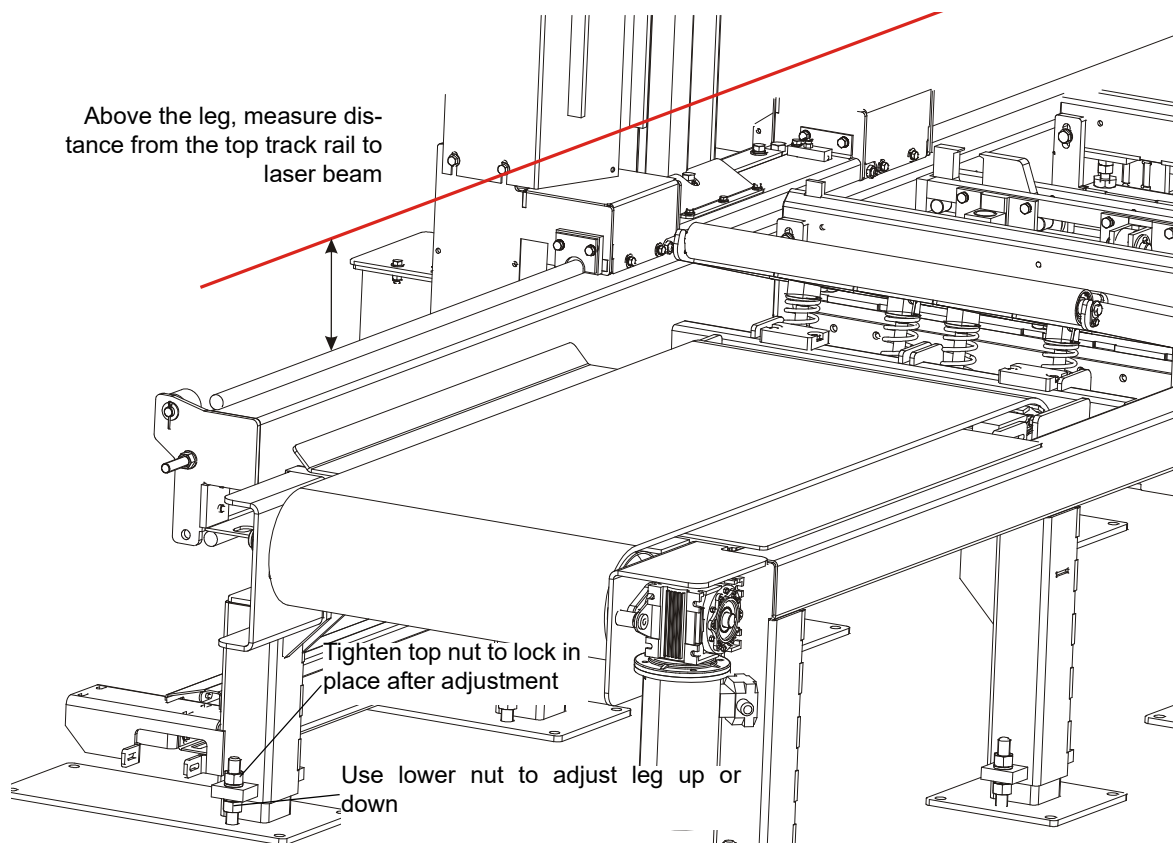

FIG. 2-2
**See Figure 2-2.** To level the main bed tube, measure the distance from the top track rail to the laser beam at one of the leg locations. Move the saw head if necessary to remove weight from the leg. Use the lower adjustment nut to raise or lower the appropriate leg until the target dimension is obtained ( $\pm 1.5\text{mm}$  [ $\pm 1/16"$ ]). Lock the leg in position by tightening the top nut. Repeat at each leg location along the length of the main bed tube.